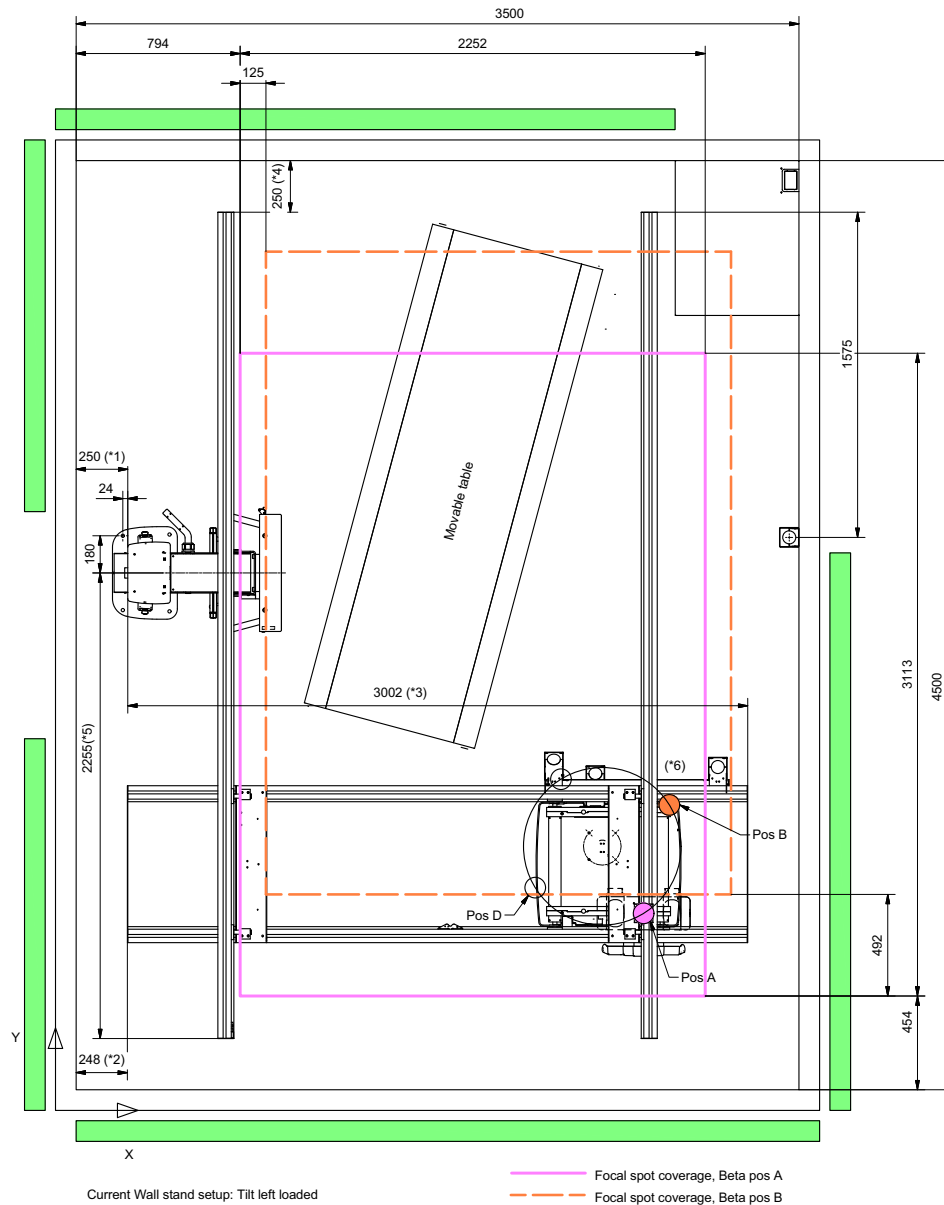

Figure 5-6
- **(*2)** is chosen due to the room size in layout 1 (*Figure 5-6*). It makes it possible to cover the table and horizontal wall stand when beta is in position A. **(*2)** must not be less than 100 mm.